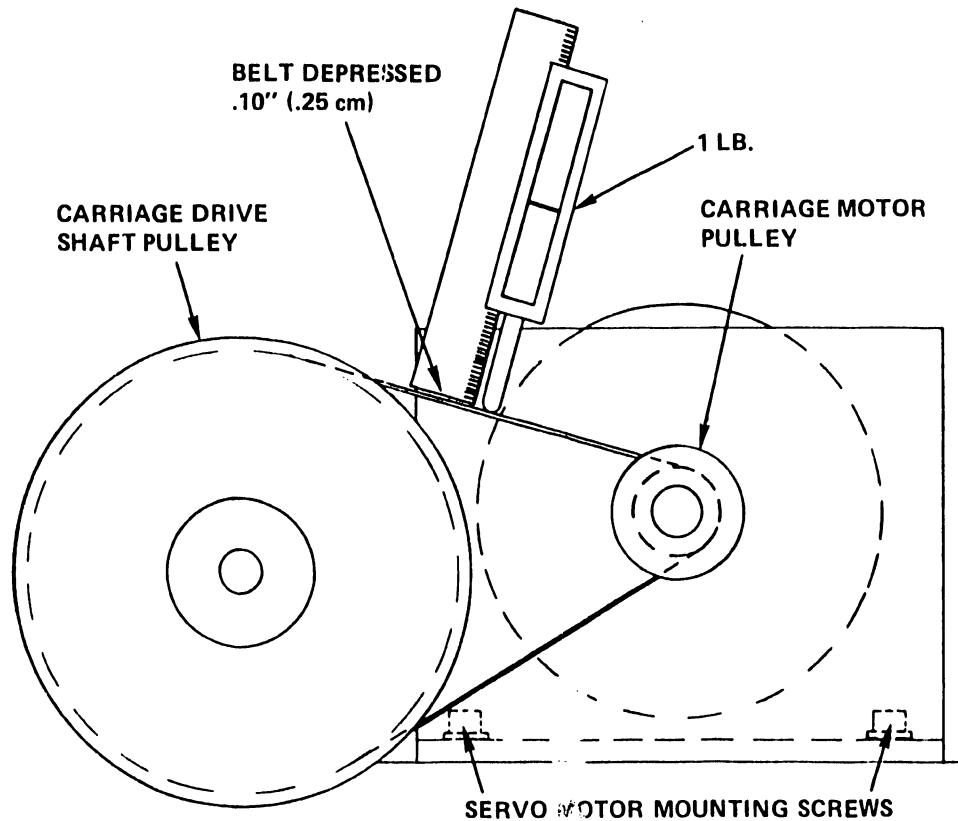

Figure 5-45. Drive Motor Belt Adjustment
2. Drive Motor Belt - Loosen the two Allen screws holding the tachometer/servo assembly and move the assembly to obtain the correct belt tension. Tighten the screws and recheck the belt tension. See Figure 5-45.